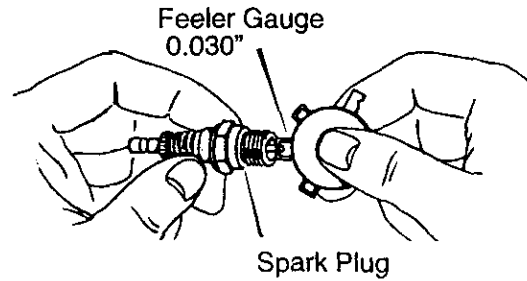

Figure 34
2. Be sure **spark plug** is clean and free of foreign material. Check electrodes gap with a wire **feeler gauge** and reset gap to 0.030" if necessary. See Figure 34.